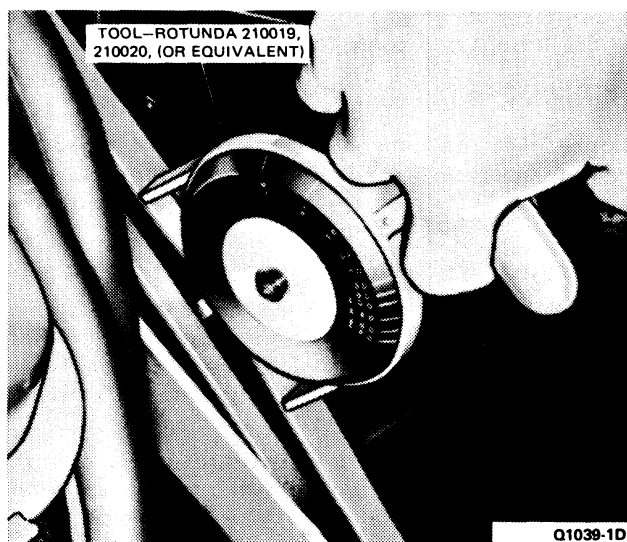

FIG. 1 Checking Drive Belt Tension
1. Install a belt tension gauge such as Rotunda models 210019 and 210020 or an equivalent, on the drive belt(s) (Fig. 1) and check the tension following the instructions of the tool manufacturer.